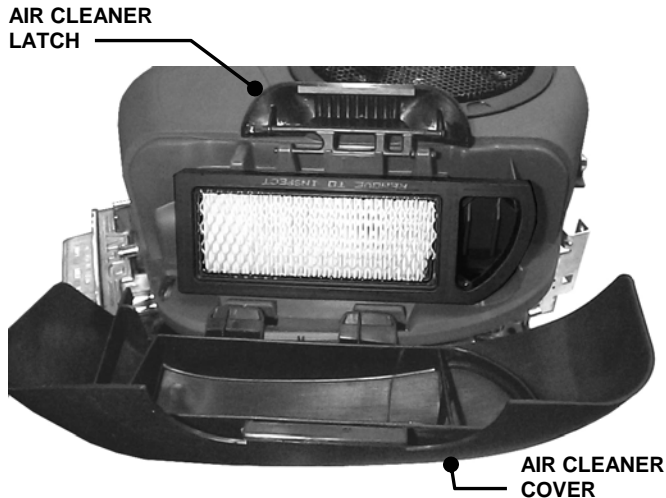

FIGURE 3.5
- a. Change air filter. Pull up and rotate the air cleaner latch to remove cleaner cover. See Figure 3.5.